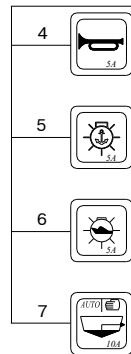

Fig.D5
Console equipment (Fig. D5):
- switches (Fig. D5):
- electric horn switch (4);
- anchor light switch (5);
- running lights and meter lamp switch (6);
- bilge pump switch (7);